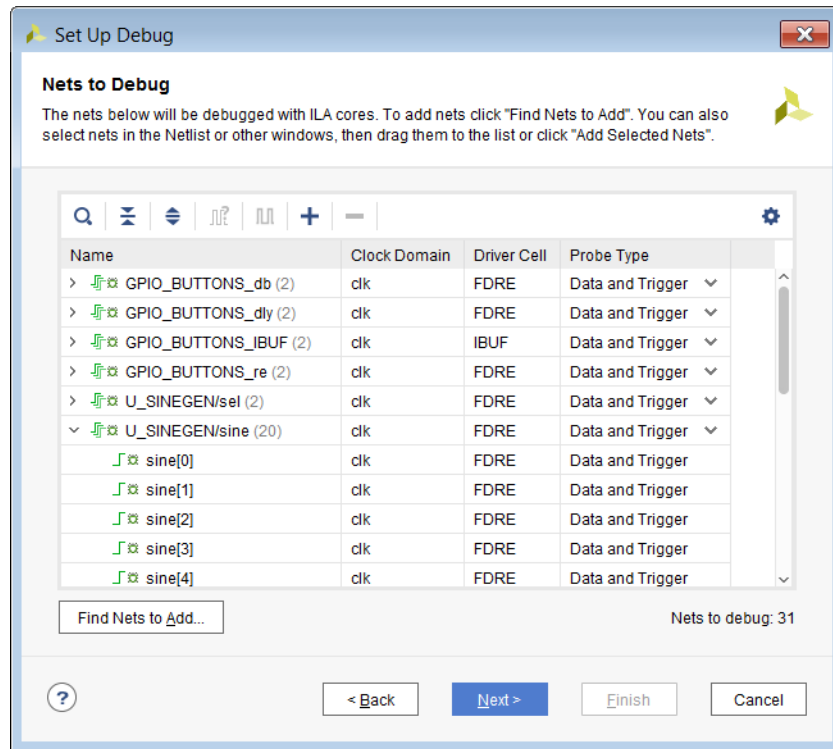

Figure 10-2: Set Up Debug Wizard
3. Click **Next** to get to the **Specify Nets to Debug** panel (see Figure 10-2).